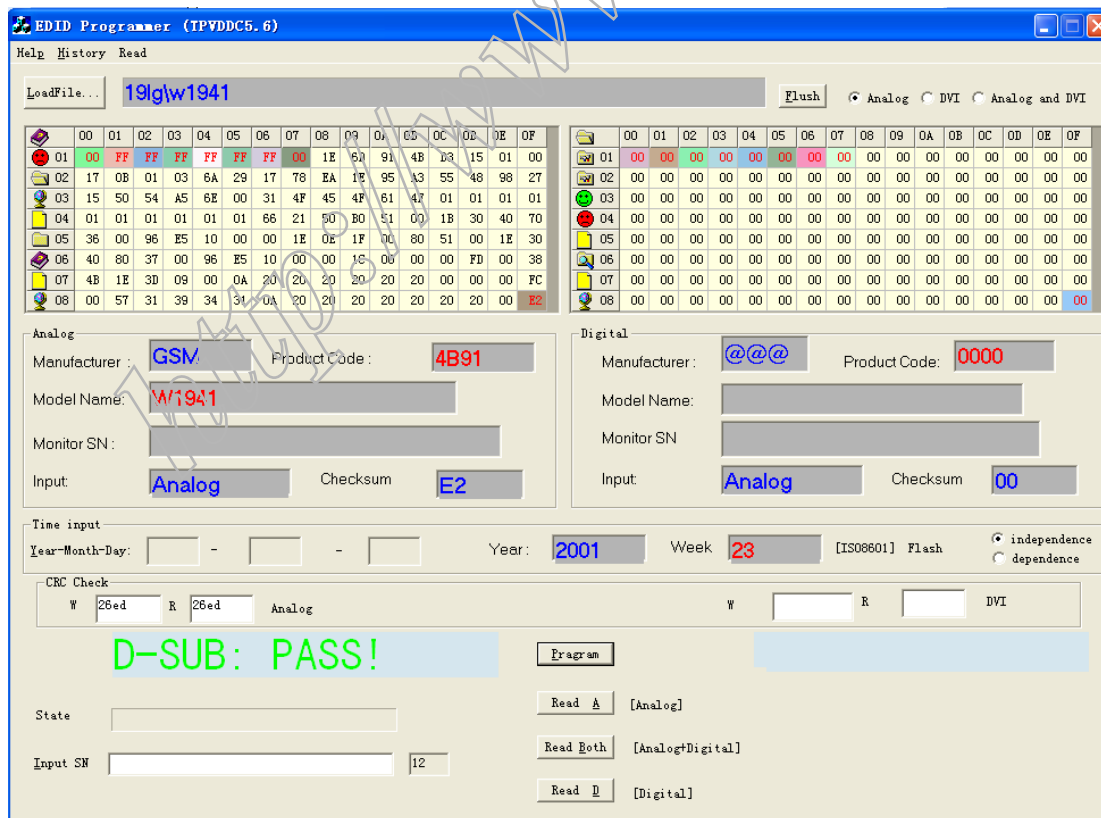

Fig.1
- 5、 According to the message of DDC program, when the picture as fig.1 appears, it show DDC record has finished.